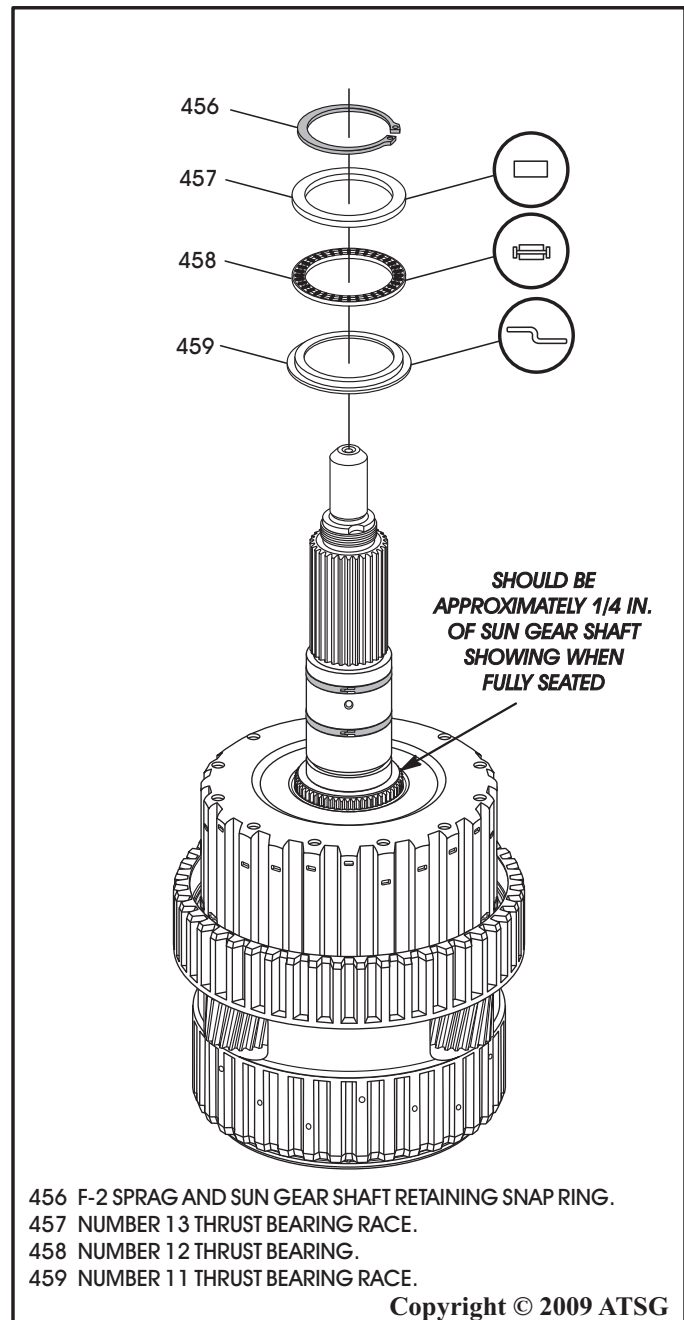

Figure 149
Note: *There should be approximately 1/4 inch of sun gear shaft spline showing when fully seated, as shown in Figure 149.*
54. Install the number 11 thrust bearing race, as shown in Figure 149.
55. Install the number 12 thrust bearing, as shown in Figure 149.
56. Install the number 13 thrust bearing race, as shown in Figure 149.
57. Install the sun gear shaft retaining snap ring, as shown in Figure 149.